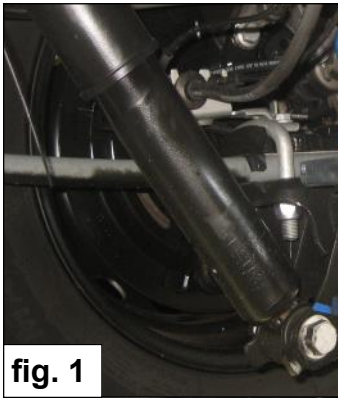

fig. 1
1. Dismount the lower shock absorber bolt and jack up the car. *Fig. 1.*